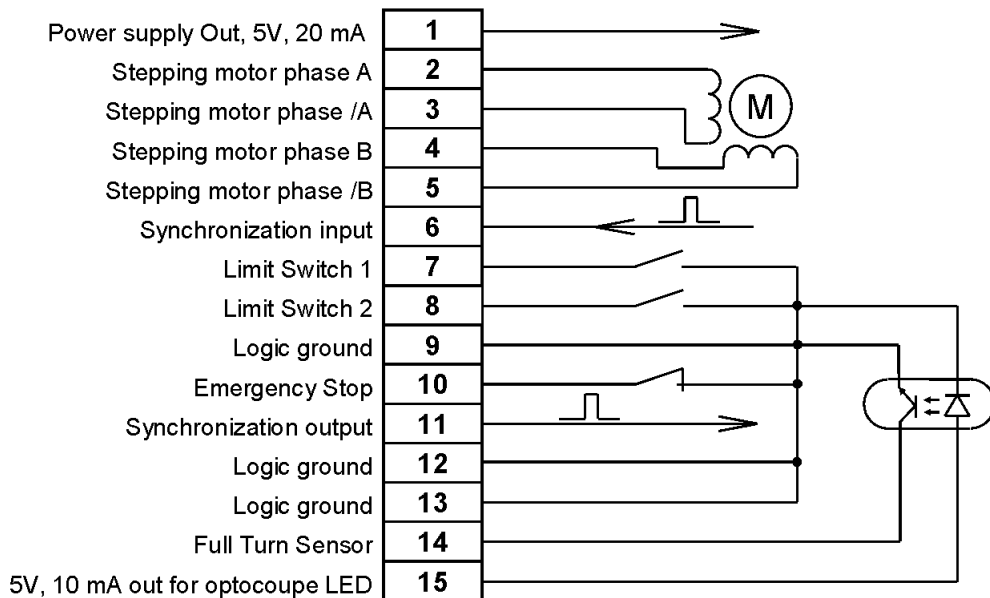

Figure 4. Wiring diagram.
- **Stage to controller cable.** It connects 8SMC1-USBh to translational or rotational stage. This cable is plugged to 8SMC1-USBh by standard 15 Pin DSub connector according to Figure 4. If you use handmade motorized stage to controller cable make sure that it configures with Figure 4 and there is no contact between stepping motor phase windings and 8SMC1-USBh ground. The power driver will be damaged if such grounding present.